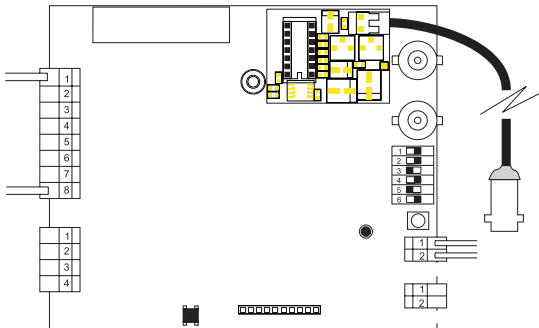

*Figure 3. ZRM/VID video connections*
- connect the flying lead to the ZRM/VID according to figure 3.